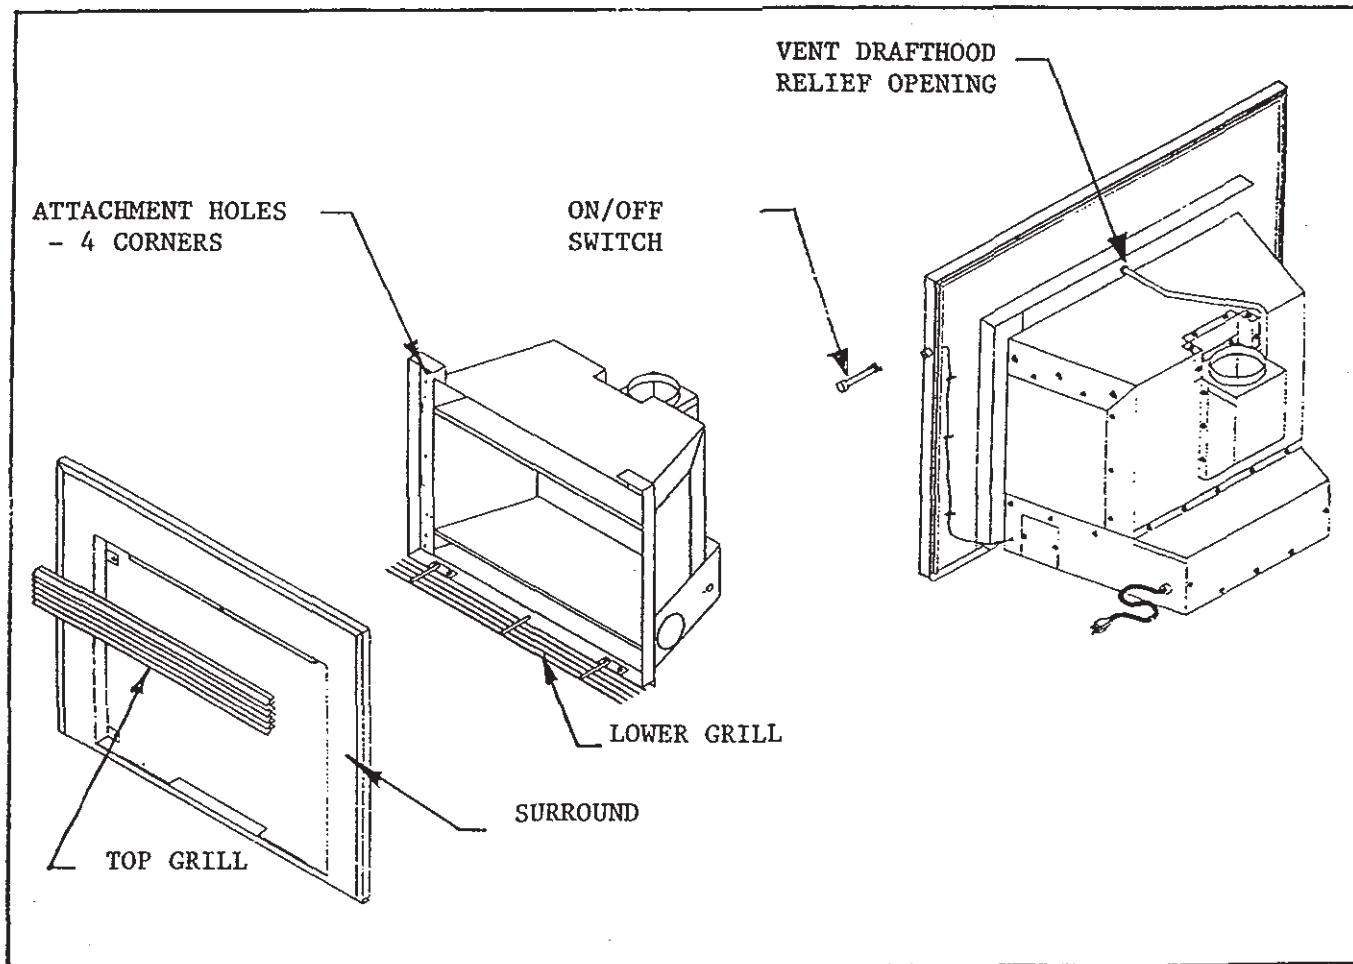

FIGURE 8
1. Remove the four (4) screws attaching the lower grill to the unit and remove the lower grill.
2. Find the coiled low voltage wires and ON/OFF switch attached to outer right side of the insert. See Figure 8.
5. Remove and retain the four surround attachment screws at the corners of the face of the unit. See Figure 8.
Place the flue draffhood tube into the hole at the center of the surround. Venting operation can be observed by holding a small flame at this relief opening to the room (center hole of the surround). See Figure 8.